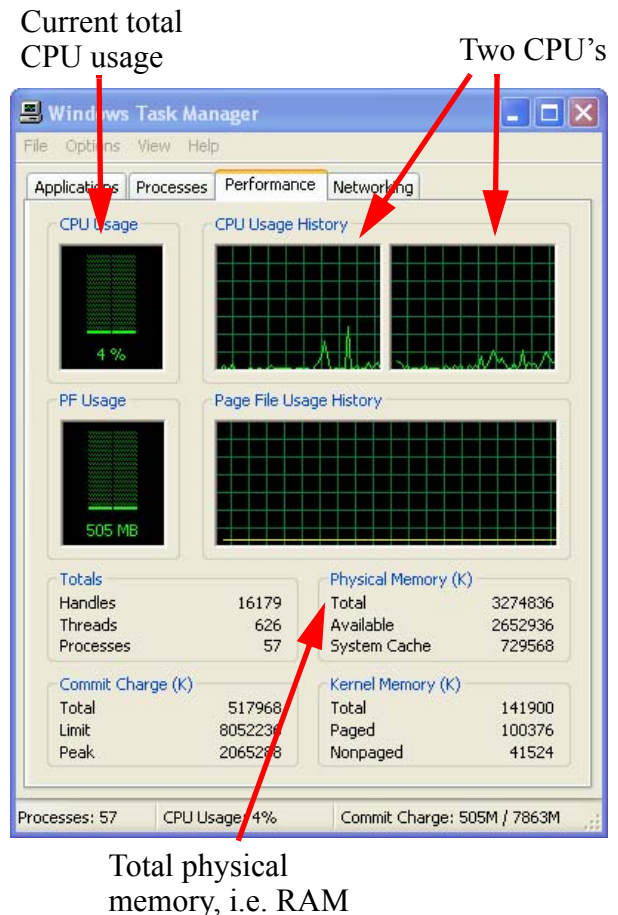

Figure 2: Windows Task Manager, Performance tab
The **Task Manager** is accessed by right-clicking on the tool bar and selecting **Task Manager**. The **Task Manager** has two tabs that record performance information. The **Performance** tab displays a number of useful items as shown in Figure 2.
- The total physical memory (RAM) on this machine. In Figure 2, this is approximately 3 GB of RAM.